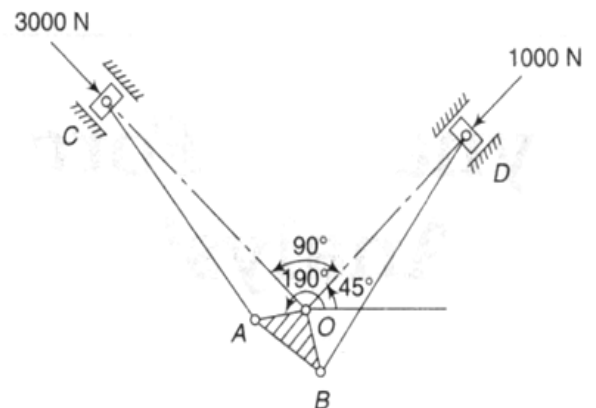

Figure 3
11. A two-cylinder engine shown in Fig. 3, is in static equilibrium. The dimensions are $OA = OB = 50 \text{ mm}$, $AC = BD = 250 \text{ mm}$, $\angle AOB = 90^\circ$. Determine the torque on the crank OAB . (106 N.m clockwise)